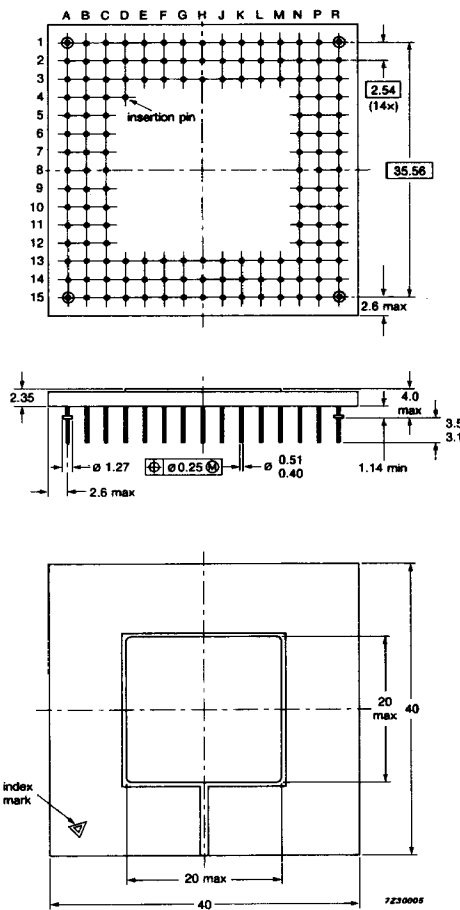

Fig. 5.2-1 144-pin grid array (PGA) (NO275) package for the PCB5011.
5.3 PIN ASSIGNMENT FOR Fig. 5.2-1